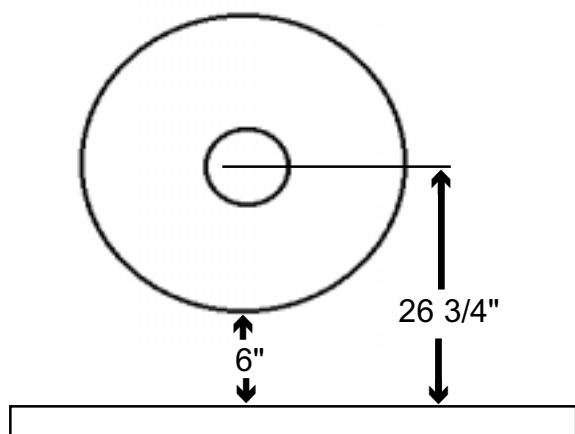

Figure 1
The minimum clearances from the appliance to combustibles are shown on figures 1 and 2. Place the appliance on a flat, solid, continuous surface (i.e. wood, tile, concrete, metal). This unit does not require a hearth or other type of floor protection.
1. Position unit to comply with the minimum clearances to combustible materials. Minimum clearances are shown in figures 1 and 2. It is recommended that no overhead cross members in the ceiling or roof be cut. Reposition unit if necessary, being careful not to move closer than the minimum clearances.